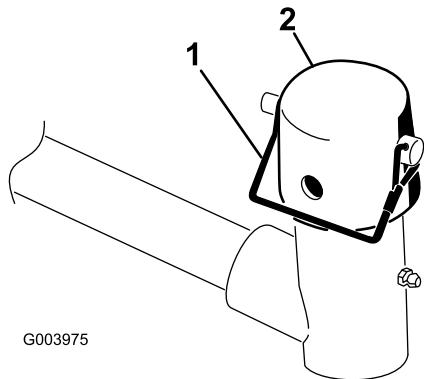

Figure 9
7. Remove the lynch pin and the clevis pin of the pin and lanyard assembly from the lift arm pivot yoke. Then, remove the cap (Figure 9).
11. Secure the cap and the carrier-frame shaft to the lift-arm yoke with the snapper pin (Figure 9).